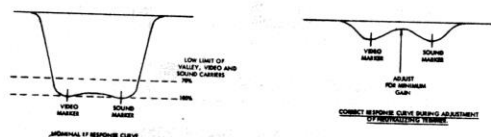

Figure 35: Ideal VHF Response Curve.
- See figure 35 for adjustment locations and identification.
- 4 Increase tuner bias to approximately -9 volts or disconnect B+ from tuner and increase sweep generator output to maximum. Adjust neutralizing trimmer A3 for minimum response with valley centered between carrier frequencies as shown by Figure 35.